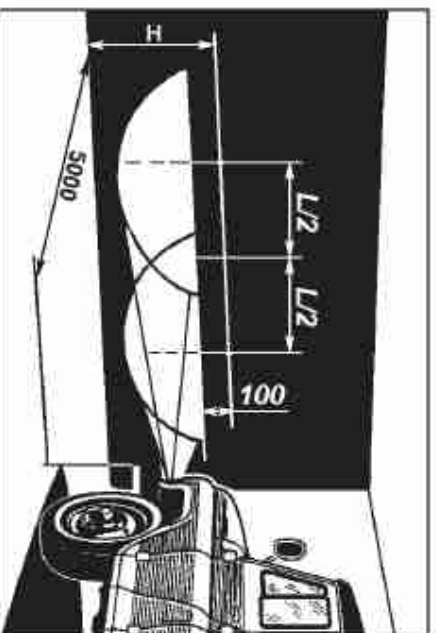

Fig. 9.42. Screen markings for front fog lights adjustment:
**Adjust the front fog lights** so that the area of concentrated light on the wall or the aiming screen is located as indicated on Fig. 9.42. To replace the fog light bulb, remove the cover of the bulb holder by turning it counterclockwise and remove it.